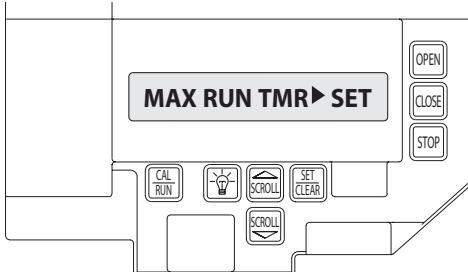

Figure 15
- 2) Press SCROLL  (up or down) until display reads "MAX RUN TMR > SET." **Figure 15**.